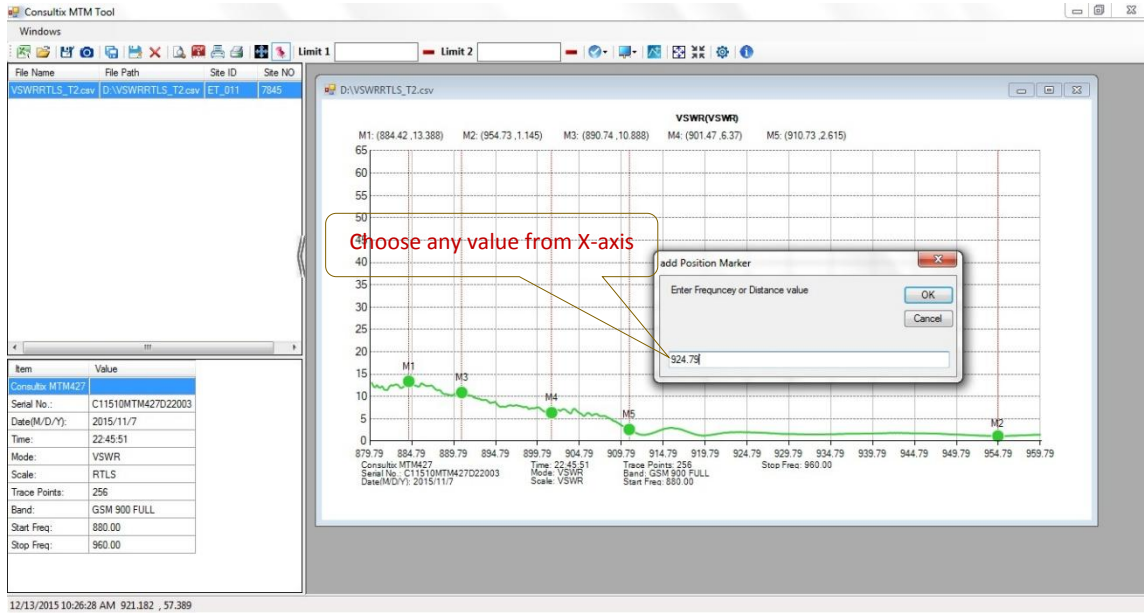

Figure 6, Editing Markers
- 2- Edit markers: from **Function Toolbar**, click “**Edit Marker**” button, right click the marker and choose “**Marker Position**”, “**Add Position Marker**” window appears, enter the marker value as shown in figure 6.